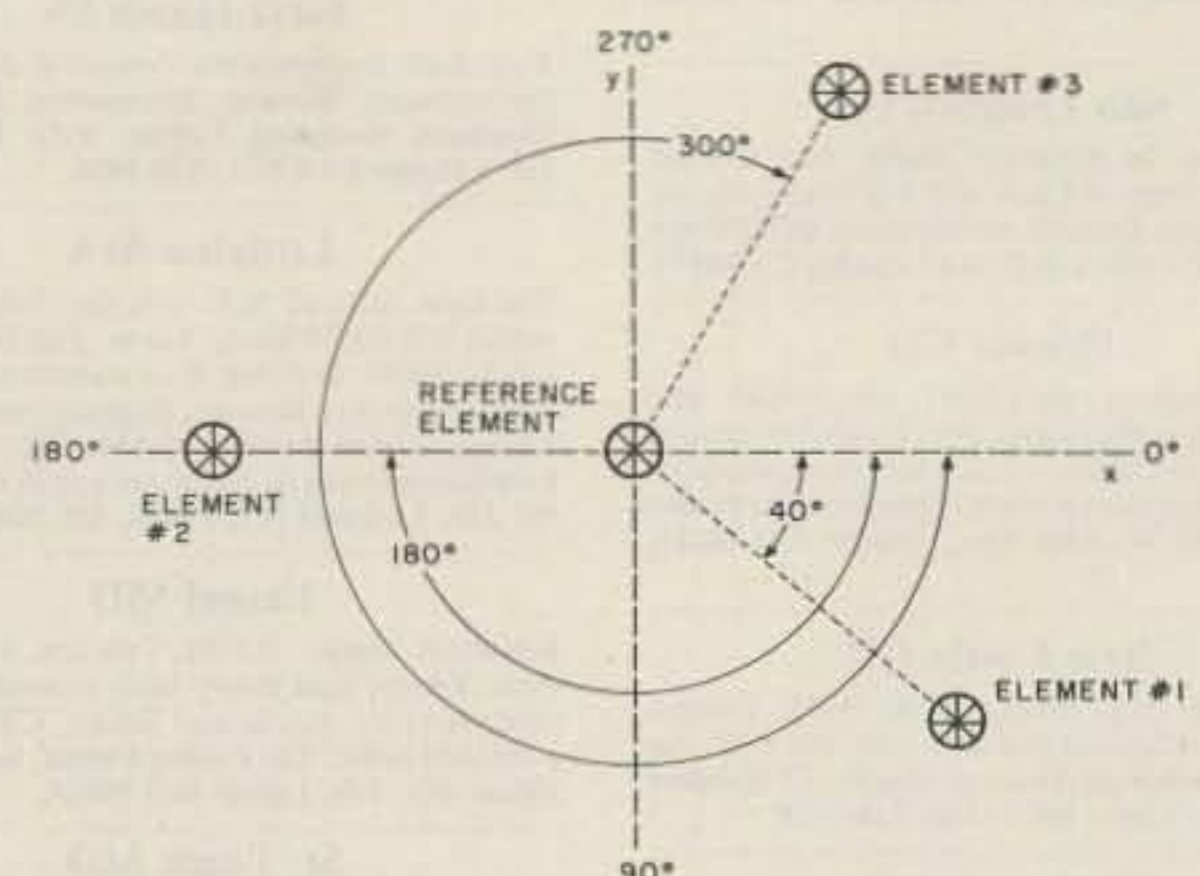

Fig. 1. The reference element is always centered on the X-Y coordinate system. All other element placements are measured as shown here.
2) The relative phase of each element. This is the phasing that each element in the array receives compared to the reference element. The reference element can be any element in the array, and is chosen by the user; all measurements of phase are referenced against it. The phase of the reference element is automatically made zero (0) degrees. The phase of each element in the rest of the array is then the difference in phasing in degrees from the chosen reference element. The examples will make this clear.
3) The angles of elements. The angle of the element is the angle which is made from the user's view of the antenna placement (See Fig. 1).
4) The relative amplitudes of elements. This is how much power each of the elements is getting compared to the reference element. If element #2 is getting the same amount of power as the reference, then the response to the program would be (1). If the element in question were getting twice as much power as the reference, then the reply to the program when asked this question would be (2), and so on.